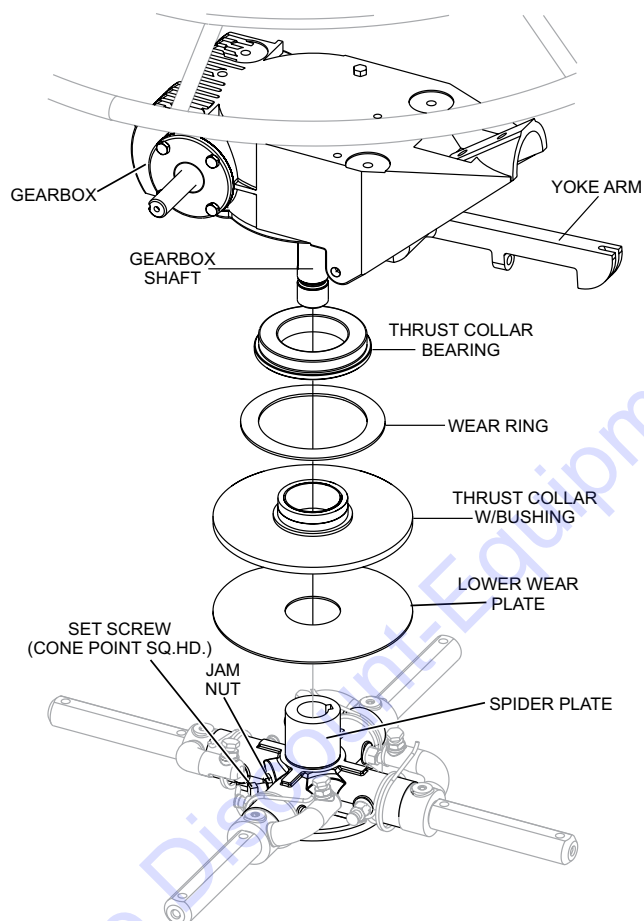

Figure 63. Spider Removal
1. Locate the cone point square head set screw (Figure 63) and attached jam nut found on the side of the spider assembly.